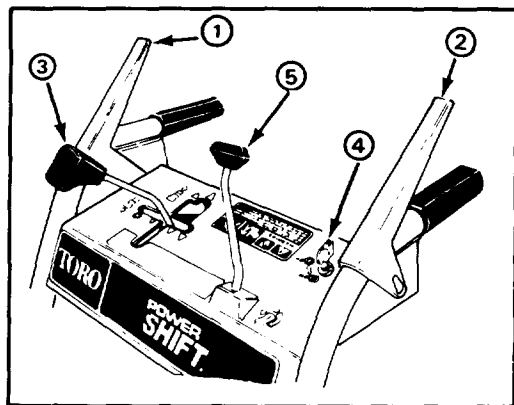

Figure 9.
Auger/Impeller Control (Fig. 9) — Control has two positions: ENGAGE and DISENGAGE. To engage auger and impeller, compress lever against right handle grip. To disengage, release lever.
Traction Drive Control (Fig. 9) — To engage traction or activate power shift system, lever must be compressed against left handle grip. To stop traction, release lever.
Speed Shift Control (Fig. 9) — The control has four speeds forward and two reverse and also controls power shifting of wheels. To select speeds, move shift control to desired position.
Auger Lock-Up (Fig. 9) — When auger/impeller control and traction drive control are both compressed, the traction control locks the auger/impeller control down. Releasing the traction control releases the auger/impeller.
Discharge Chute Control (Fig. 9) — Rotate discharge chute control clockwise to move discharge chute to the right and counterclockwise to move chute to the left.
Ignition Switch (Fig. 9) — Switch has two positions: ON and OFF. Rotate key to ON position before starting engine. To stop engine, rotate key to OFF.
1. Move speed shift control to N (neutral) and throttle to FAST (Fig. 9).
4. Rotate ignition key to ON (Fig. 9).
1. Release traction and auger/impeller drive controls (Fig. 9).